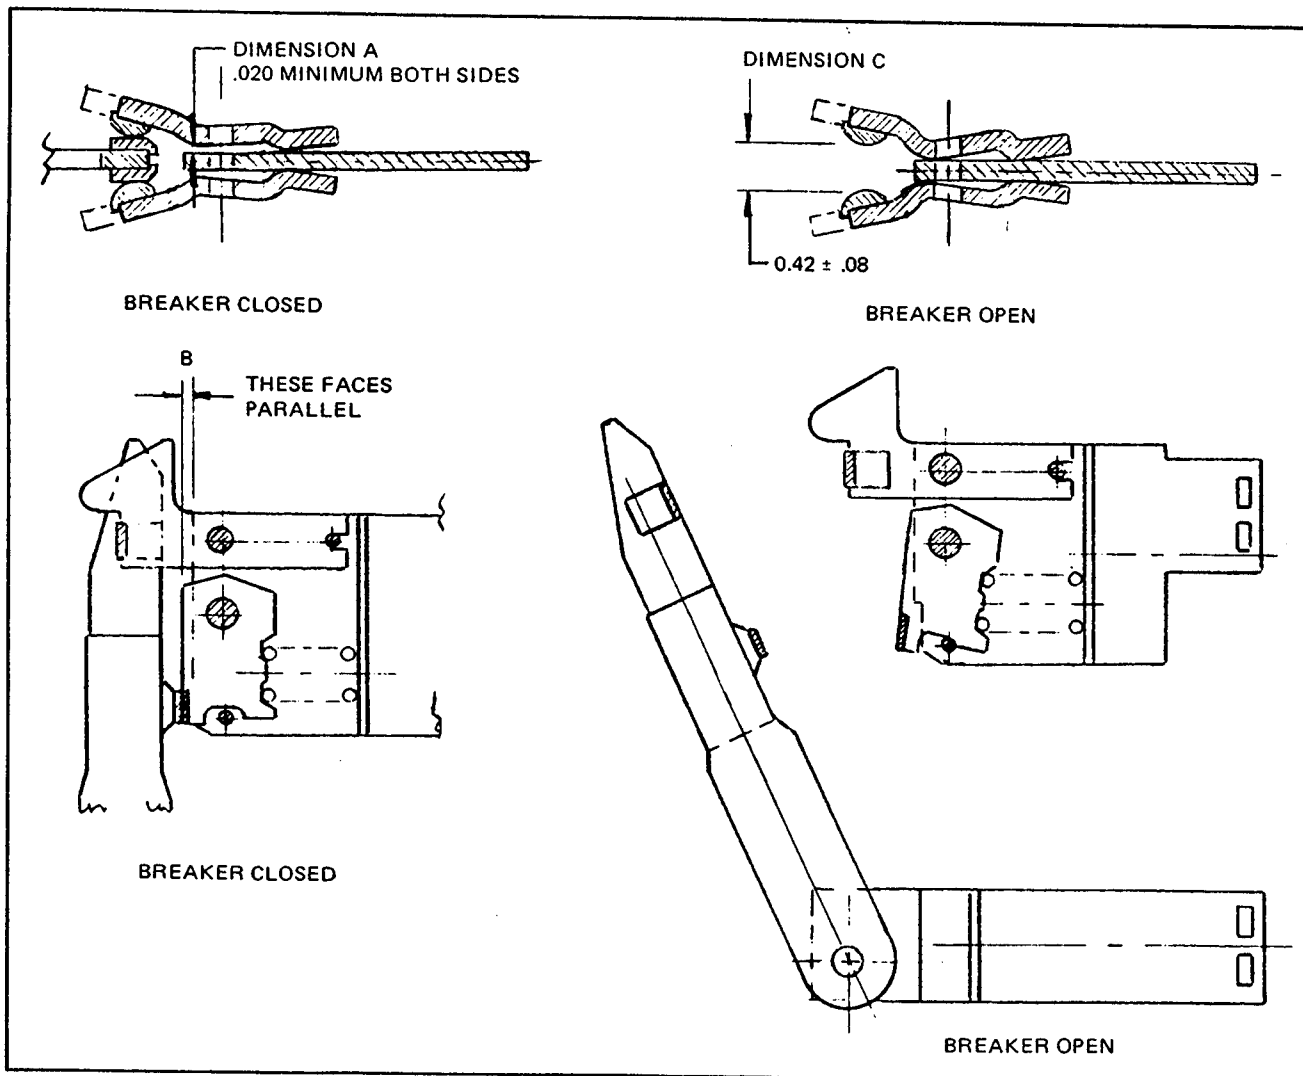

Fig. 84 Contacts and their Adjustment, DS-206 Breaker
With the breaker open, examine the contact tips of moving and stationary arcing and main contacts. If the tips are burned or worn more than .030", the contacts must be replaced. Also check the dimension (C) between the stationary arcing contacts (Figures 84 and 85). It should be $.42 \pm .08$. If this dimension is not maintained, the stationary arcing contacts must be replaced.
Close the breaker and check the contact engagement according to Figures 84 and 85. The main stationary contact fingers should be parallel (B) to the fixed contact cage. If not, adjust the contacts according to 12.2.3. Also check the dimension (A) between the stationary arcing contacts and the center section of the cage. If this dimension is not .02 inches or greater, the stationary arcing contacts should be replaced.